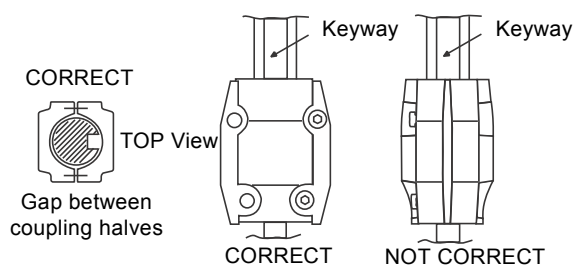

Fig. 16 Coupling adjustment all CR, CRI, CRN, CRT
3. Fit the coupling screws and leave loose. Check that the gaps on either side of the coupling are even and that the motor shaft keyway is centered in the coupling half as shown in fig. 16.
4. Fit the coupling screws and leave loose. Check that the gaps on either side of the coupling are even and that the motor shaft keyway is centered in the coupling half as shown in fig. 16.
To avoid damaging the coupling halves, ensure that the motor shaft keyway is centered in the coupling half as shown in fig. 16.
4. Lubricate the coupling screws with an anti-seize, lubricating compound. Tighten the coupling screws (finger tight) while keeping the coupling gap equal on both sides and the motor shaft keyway centered in the coupling half as shown in fig. 16. When the screws are tight enough to keep the coupling in place, then cross-tighten the screws.